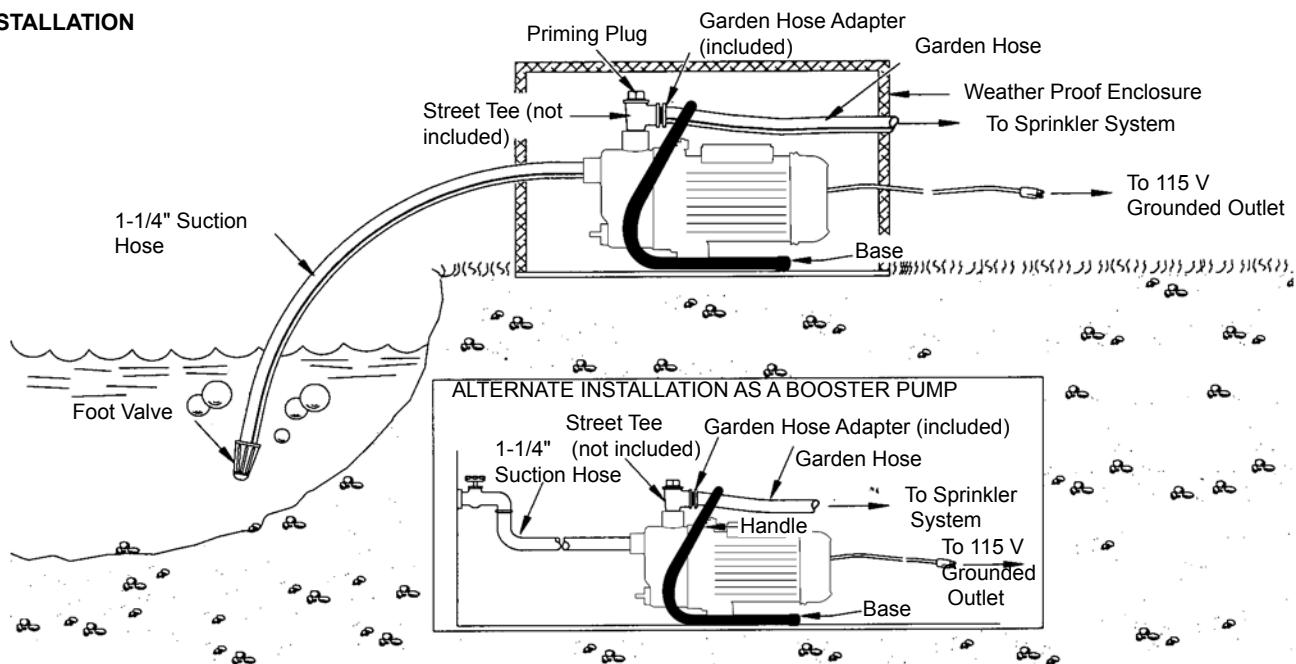

Fig. 1
- c) **Service Line:** The service line should be connected as shown in Fig. 1. The size of the service line required is governed entirely by the amount of water needed and the length of the pipe. The pipe selected should be large enough so that the friction loss (determined from Table 2, Friction Loss Chart) will never exceed a 20 ft. (6m) head.